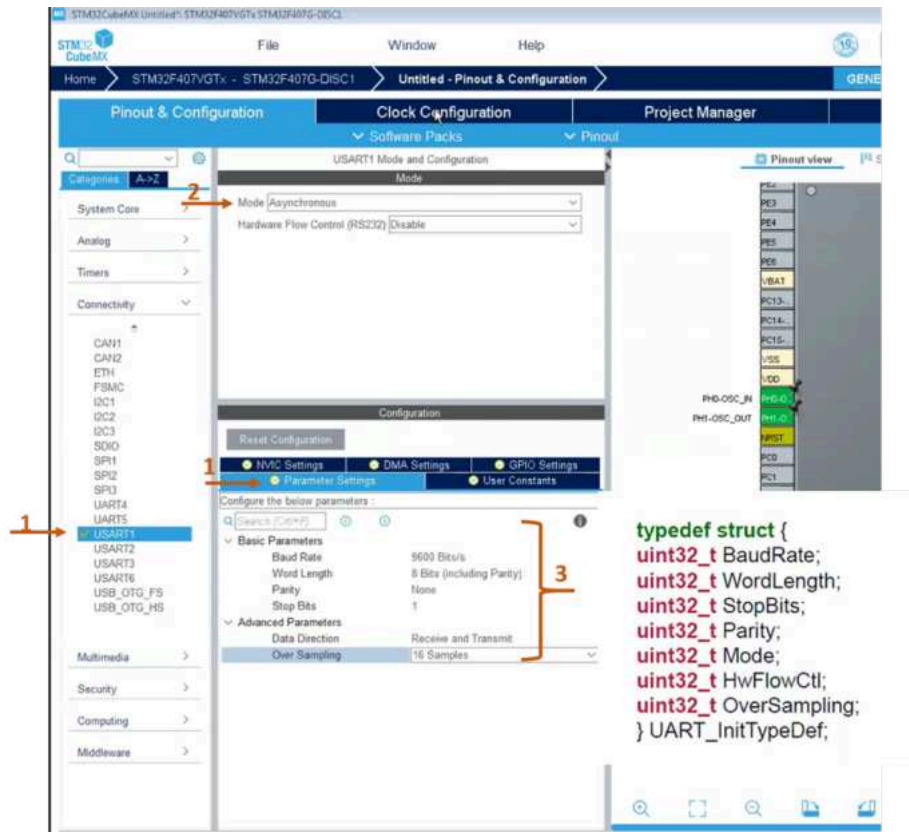
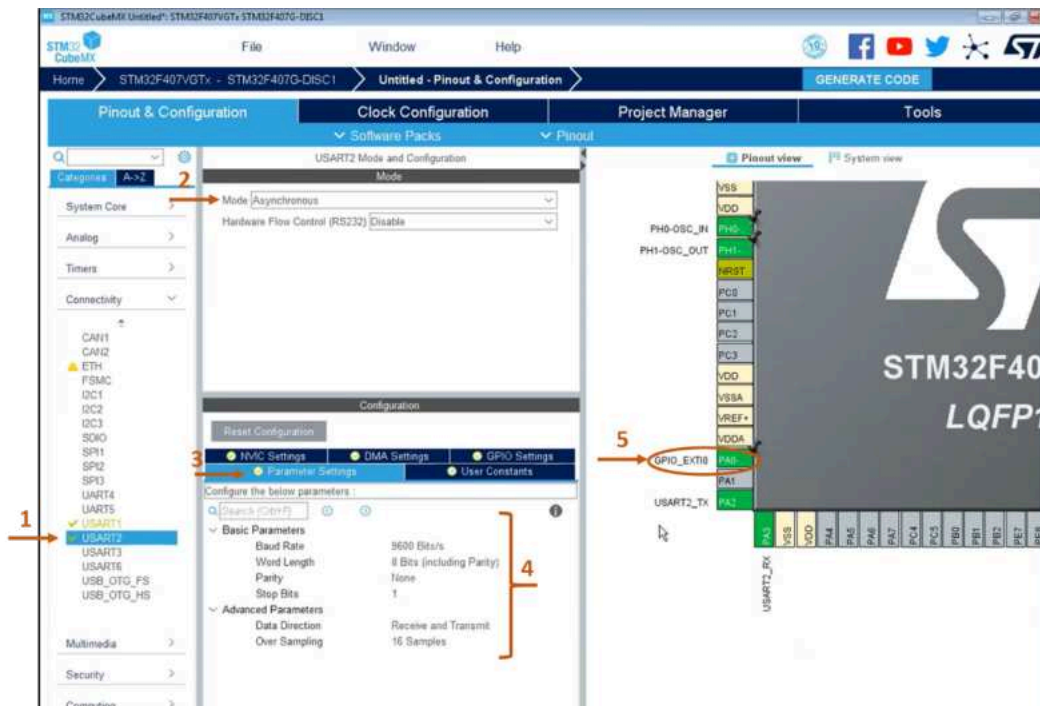
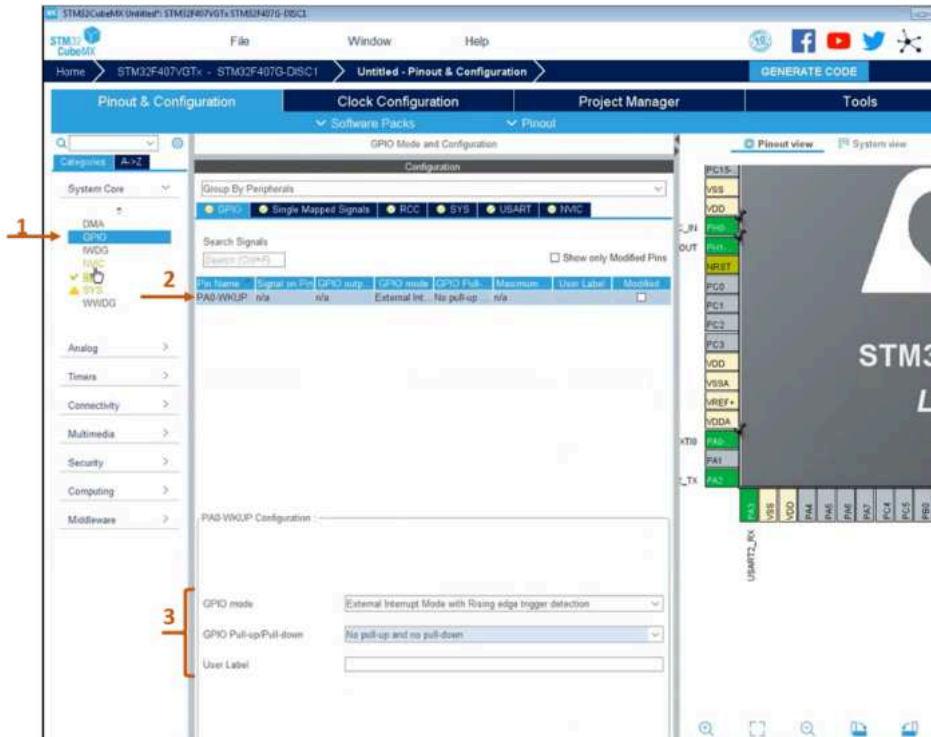
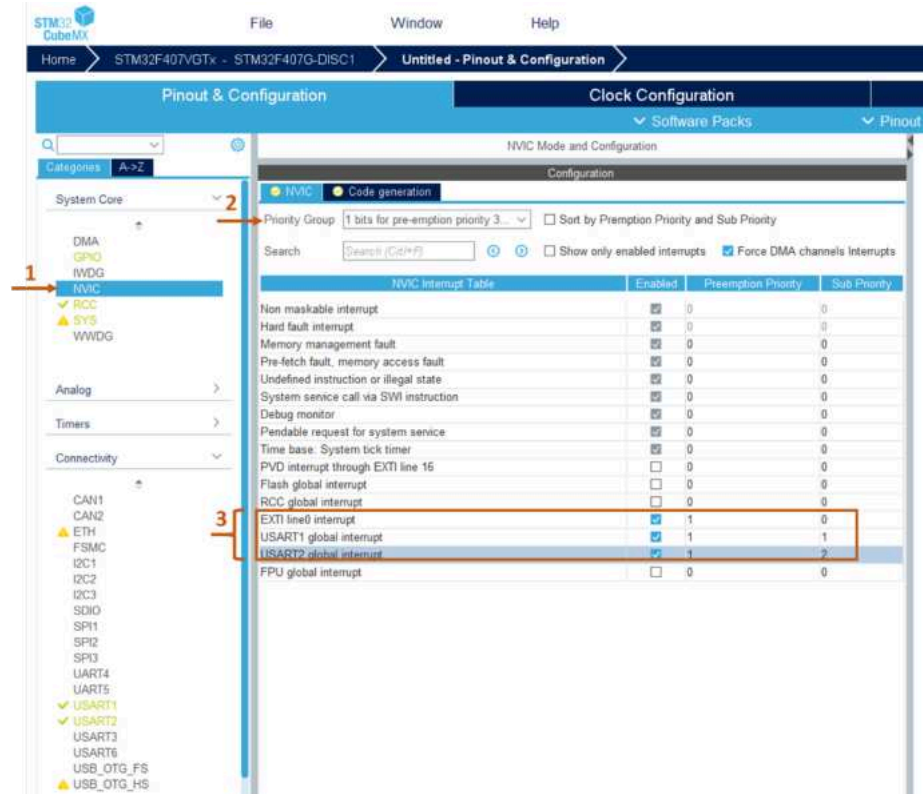

Figure 4
Figure 5
Figure 6
Figure 7
2. We use USART1 and USART2 peripherals in the lecture. Set the configuration for USART1 (Figure 4) and USART 2 (Figure 5). Use USARTs in Asynchronous Mode. BoudRate is 9600 Bits/s, Word Length is 8 Bits, Parity is None, Stop Bit is 1, Data Direction is Receive and Transmit, Over Sampling is 16 Samples for both of the USARTs. Select the PA0 pin as GPIO_EXTIO. Go to GPIO settings and set the GPIO configurations for the PA0 pin as in Figure 6. Set the NVIC configurations as in Figure 7.